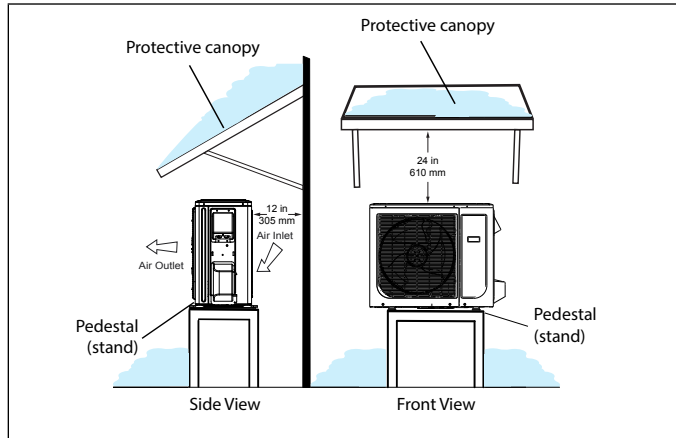
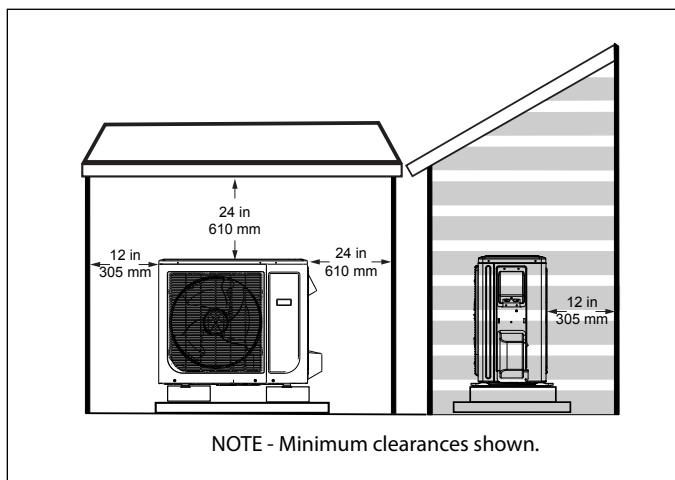

Figure 7. Outdoor Unit on Pedestal (Stand) and Protective Canopy
Figure 12. Dog House-Style Shelter
- The construction of a canopy or shade is suggested when the outdoor unit is placed in direct sunlight all day with temperatures exceeding 100°F (38°C). This is necessary because of an ambient limit control set to 122°F (50°C) to protect the electronics. If the outdoor unit is placed in direct sunlight it is possible that the limit may activate and shut down the unit. A canopy is recommended as illustrated in "Figure 7. Outdoor Unit on Pedestal (Stand) and Protective Canopy" on page 7 or "Figure 12. Dog House-Style Shelter" on page 8.
“Figure 7. Outdoor Unit on Pedestal (Stand) and Protective Canopy” on page 7.
- Outdoor unit can be installed in a dog house style shelter as illustrated in “Figure 12. Dog House-Style Shelter”.